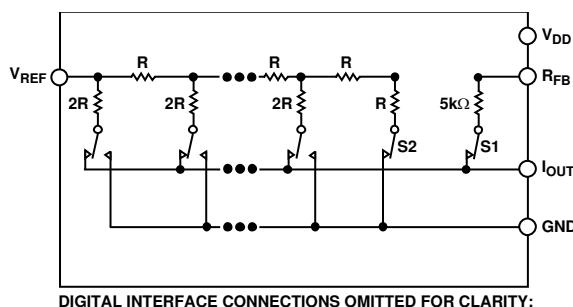

Figure 17. Equivalent R-2R DAC Circuit
The DAC architecture uses a current-steering R-2R ladder design. Figure 17 shows the typical equivalent DAC. The DAC contains a matching feedback resistor for use with an external I-to-V converter amplifier. The R_{FB} pin is connected to the output of the external amplifier. The I_{OUT} terminal is connected to the inverting input of the external amplifier. These DACs are designed to operate with either negative or positive reference voltages. The V_{DD} power pin is used only by the logic to drive the DAC switches on and off. Note that a matching switch is used in series with the internal $5\text{ k}\Omega$ feedback resistor. If users attempt to measure the R_{FB} value, power must be applied to V_{DD} to achieve continuity. The V_{REF} input voltage and the digital data (D) loaded into the corresponding DAC register, according to Equation 1 and Equation 2, determine the DAC output voltage.